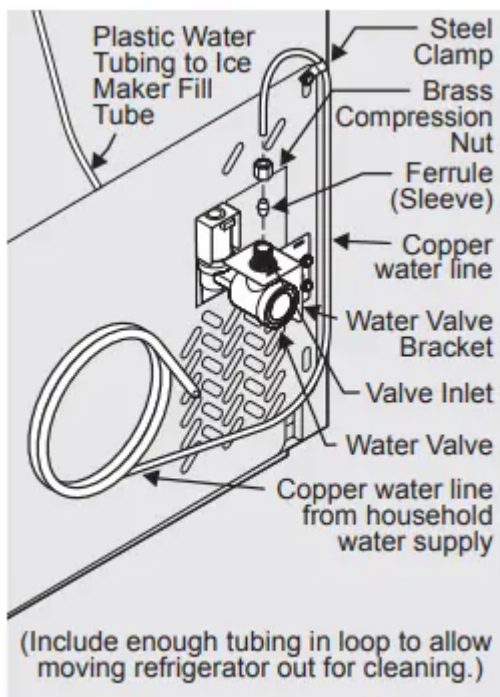

Figure 1
4. **If you use copper tubing** - Slide brass compression nut, then ferrule (sleeve) onto water supply line. Push water supply line into water valve inlet as far as it will go (¼ inch/ 6.4 mm). Slide ferrule sleeve) into valve inlet and finger tighten compression nut onto valve. Tighten another half turn with a wrench; DO NOT over tighten. See Figure 1. **If**